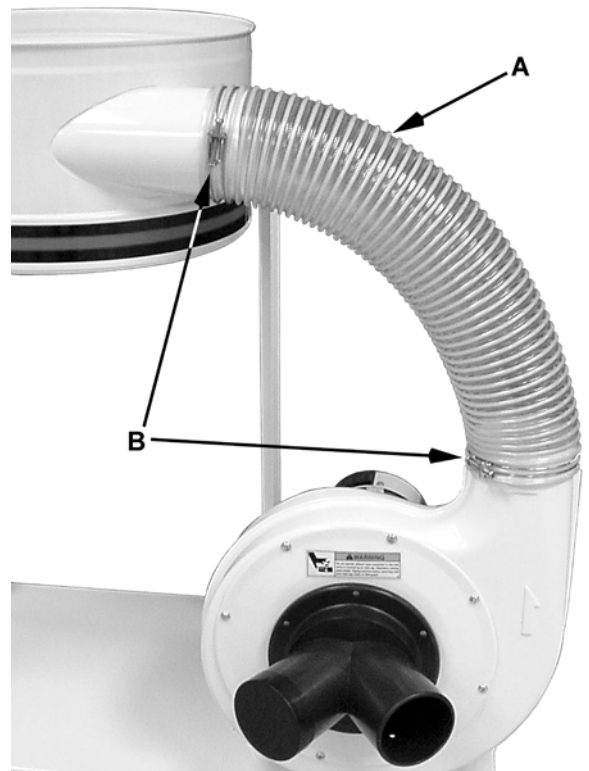

Figure 6
8. Attach the hose (A, Fig. 6) between the fan housing and the collector housing with two clamps (B, Fig. 6). Tighten the clamps to secure the hose.